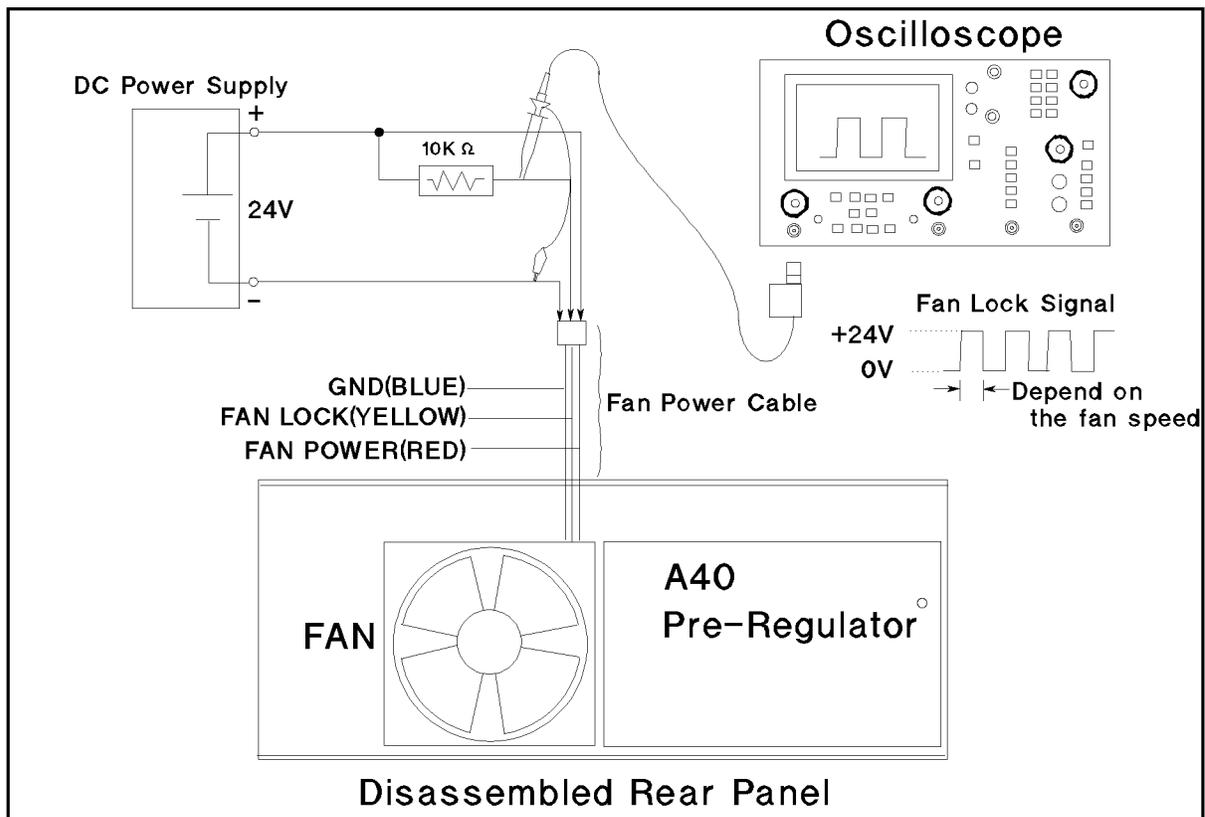

Figure 5-9. Fan Troubleshooting Setup
- d. Connect a DC power supply, a 10 k Ω resistance, and an oscilloscope to the fan power cable using appropriate wires as shown in Figure 5-9.
- f. Check the fan is rotating. Check the FAN LOCK signal is as shown in Figure 5-9.